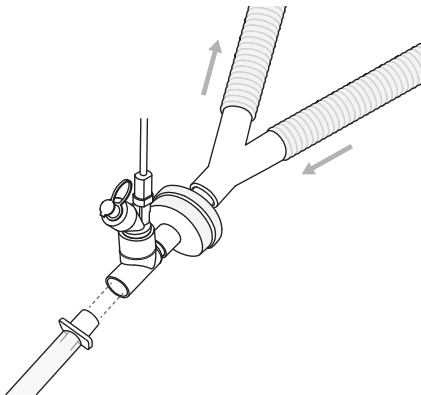

Figure 9. The Aerogen Solo placed between the HME and endotracheal tube.
- Only a HME approved for use with a nebulizer should be used in this configuration (Figure 9). Follow the HME manufacturer instructions regarding use with a nebulizer. Ensure the combination of nebulizer, T-piece and HME volumes is suitable for the tidal volume being delivered. See Table 3 for T-piece volumes.